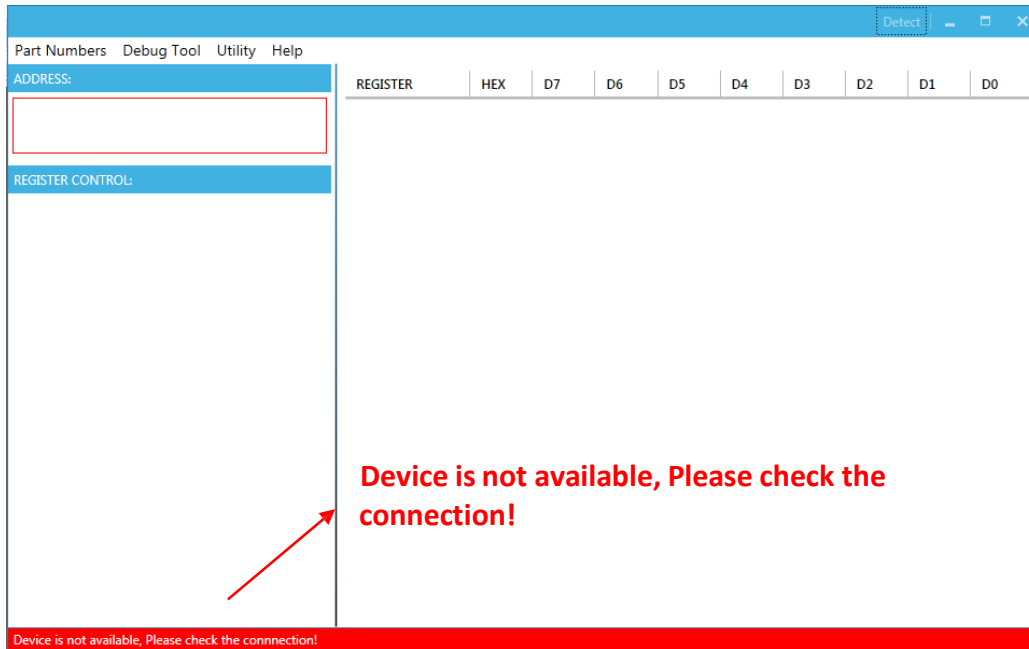

Figure 9: Warning Indicates Unsuccessful Connection – USB I²C Communication Interface Not Connected
- “Device is not available, Please check the connection!” This means that the USB I²C communication interface is not connected (see Figure 9).
The screenshot shows the same software window as Figure 9, but now it displays I²C register values. The 'ADDRESS:' field contains '60'. The 'REGISTER CONTROL:' section has 'ILIM' and 'REGISTER MAP' selected. The main area on the right is a table with columns for REGISTER, HEX, D7, D6, D5, D4, D3, D2, D1, and D0. The table contains the following data: